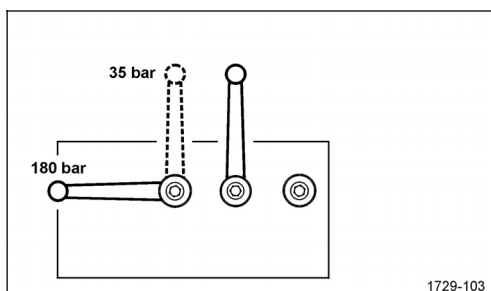

Figure 68
- ☐ Left machine side: set left ball valve of the hydraulic block according to Figure 68: 180 bar. set right ball valve of the hydraulic block according to Figure 68: this releases the knives.
- ☐ Set left ball valve (Figure 68) back to 35 bar.